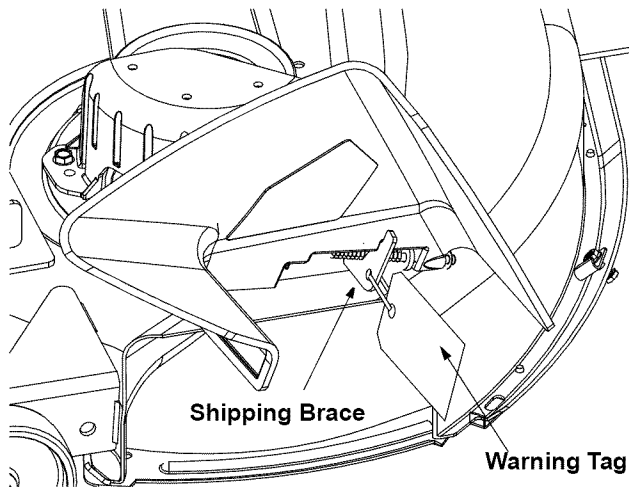

Figure 6
- Locate the shipping brace and accompanying warning tag on the right side of the tractor, between the discharge chute and the deck. See Figure 6.